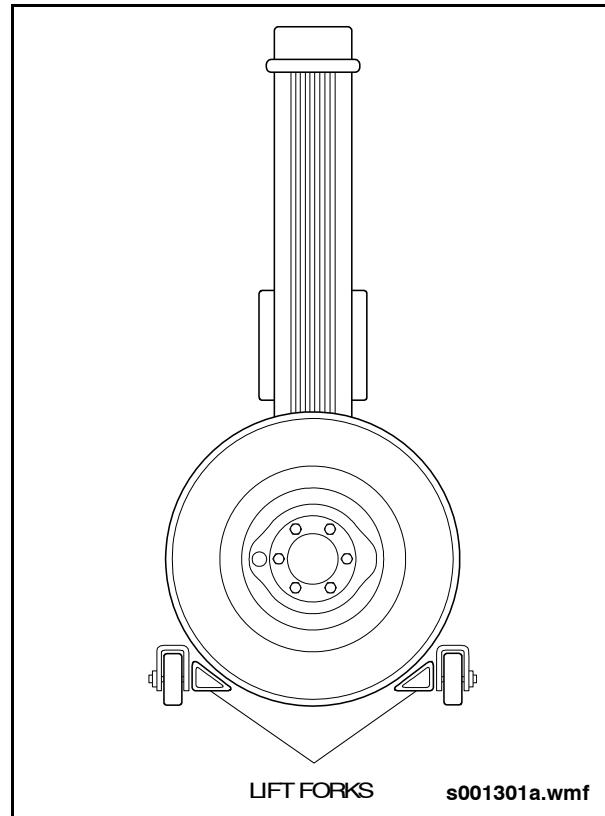
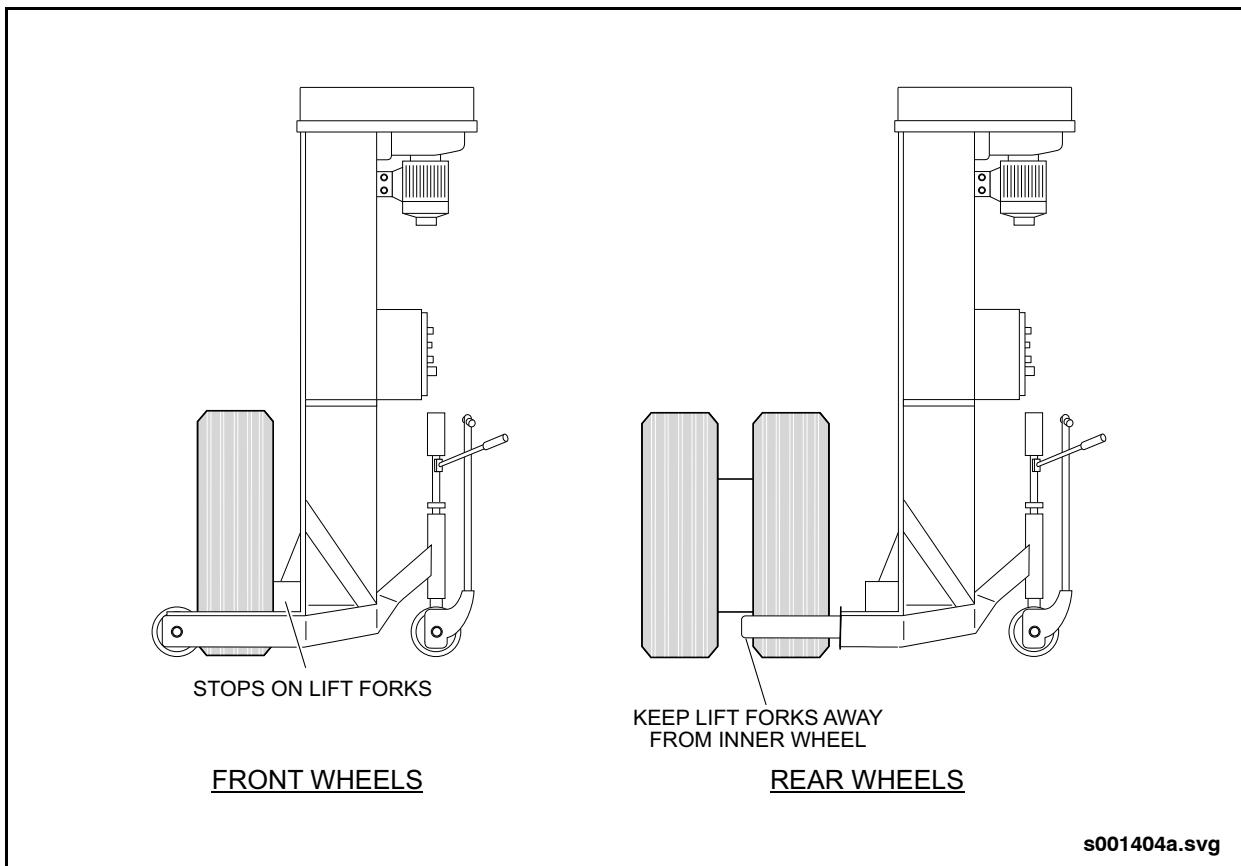

Fig. GI-15: Typical Wheel Lifts
Fig. GI-16: Wheel Placement in Hoist
1. Position wheel lift, centering each tire exactly between the lift forks. Make sure each tire is tightened up against the stop. See "Fig. GI-15: Typical Wheel Lifts" on page 39. See "Fig. GI-16: Wheel Placement in Hoist" on page 40.